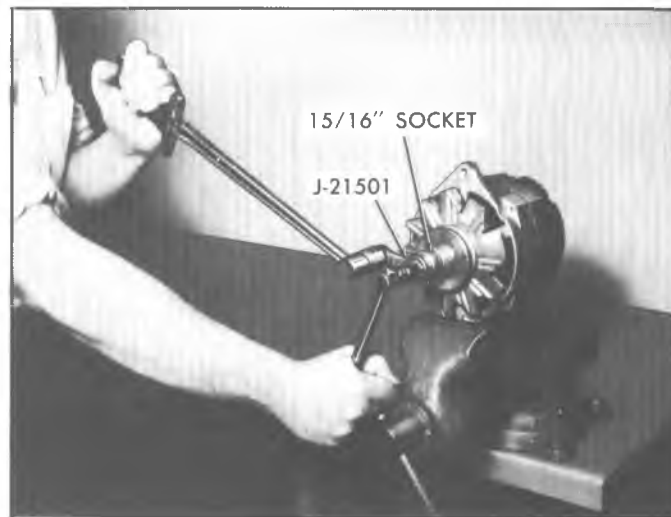

Fig. 5C—Torquing Pulley Nut
3. Reverse Steps 1 and 2 to install, use a torque wrench with a crow-foot adapter (instead of box wrench) and torque the nut to 50 ft. lbs. (fig. 5C).